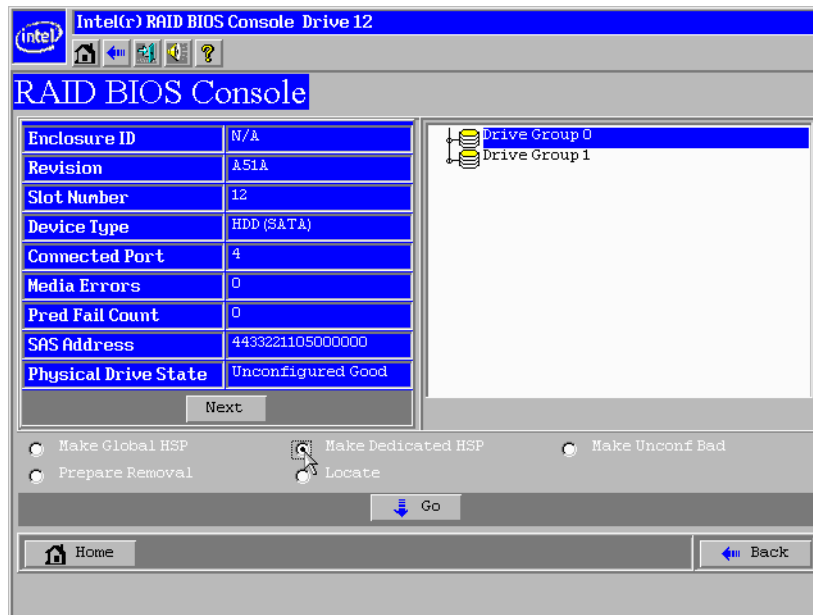

Figure 27. Intel® RAID BIOS Console 2 – creating a hot spare drive
2. On the next screen, select the disk group (Figure 27).